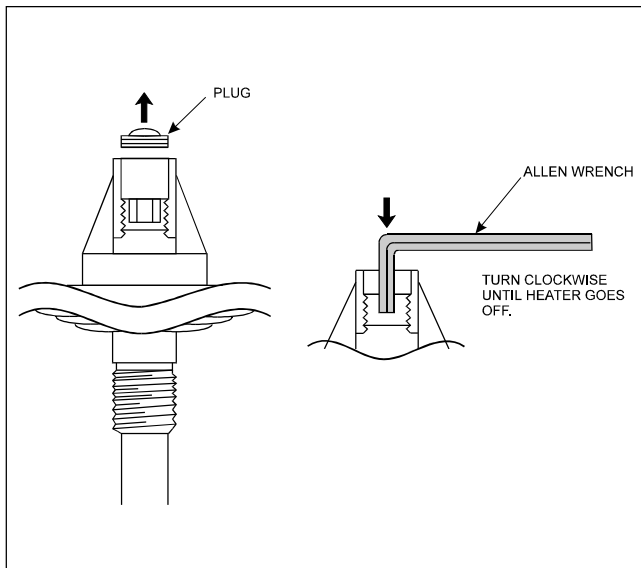

Figure 15. Pressure Switch Adjustment
5. Use a 7/32 inch (5.55 mm) Allen wrench to turn the adjustment screw very slowly clockwise until the heater goes off (see Figure 15).